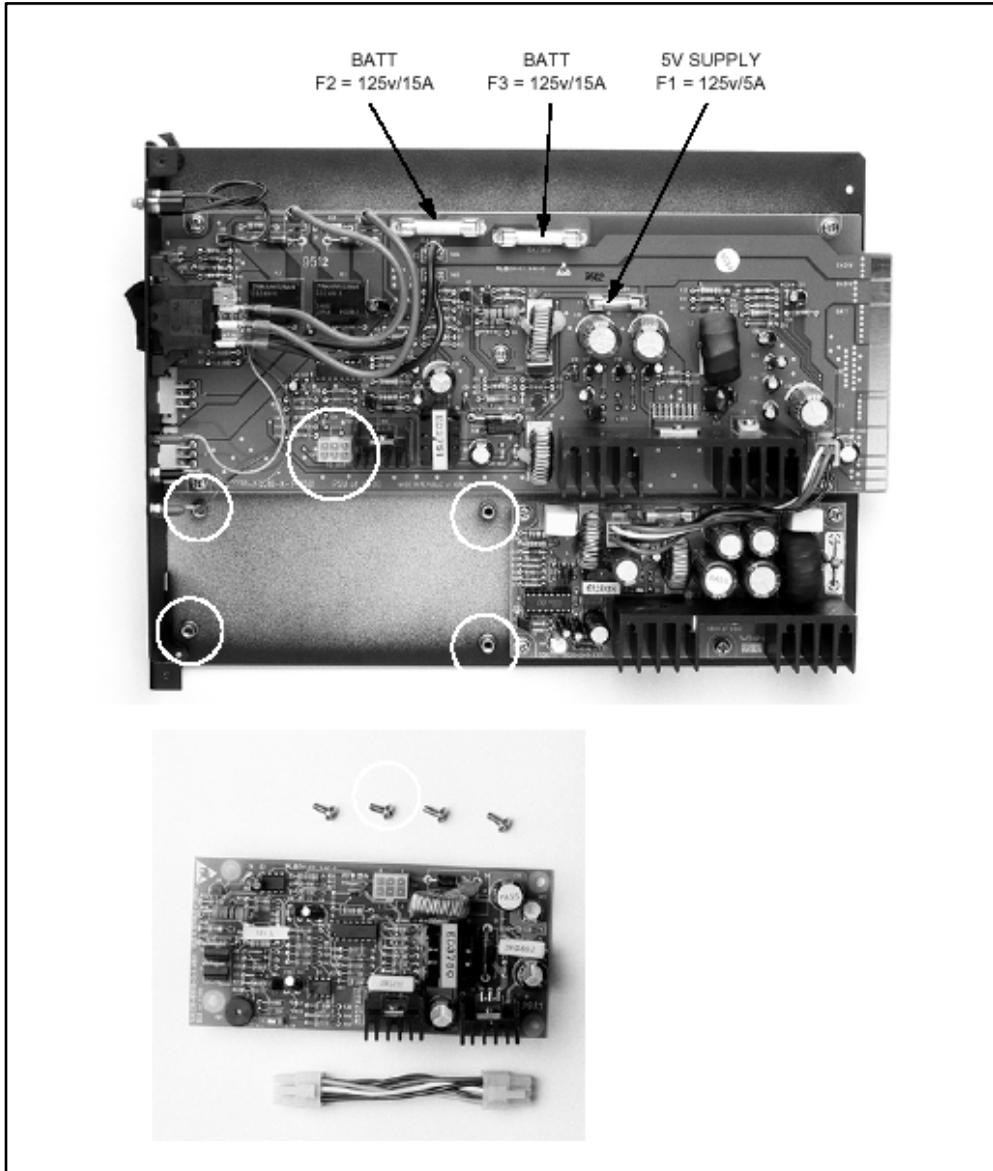

Figure 3-8: DCCU and Optional BCU Installation
2. Place the BCU board so that the Molex connector is below the connector labeled TO BCU on the DCCU motherboard. Screw the BCU into place. Refer to Figure 3-8.